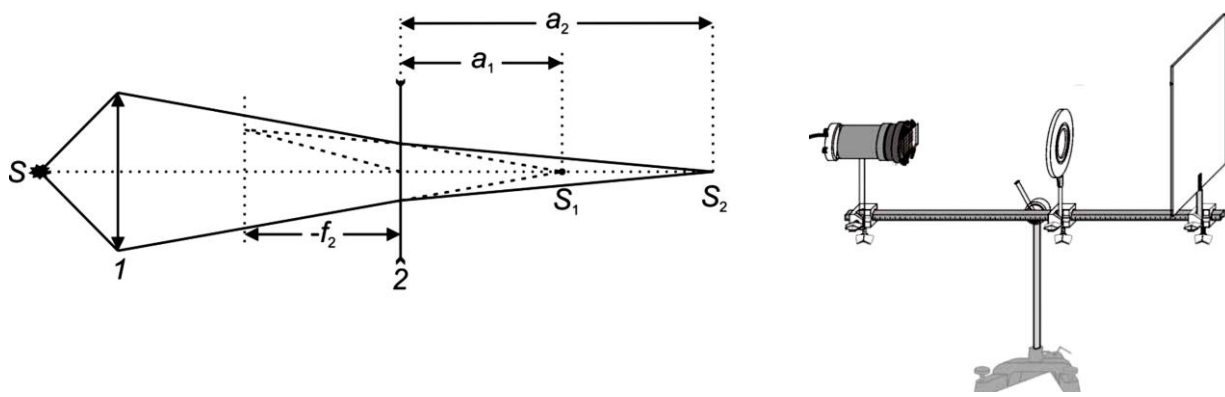

Fig. 41.4. Ray diagram (left) and experimental setup (right) for determining the focal length of a diverging lens
1. Install the lamp, the converging lens with $f = 100$ mm, and the screen on the optical bench, as shown in Fig. 41.4.
6. Having found the distances a_1 and a_2 (Fig. 41.4), calculate the focal length f of the diverging lens using the Eq. (41.3). Analyse the results.